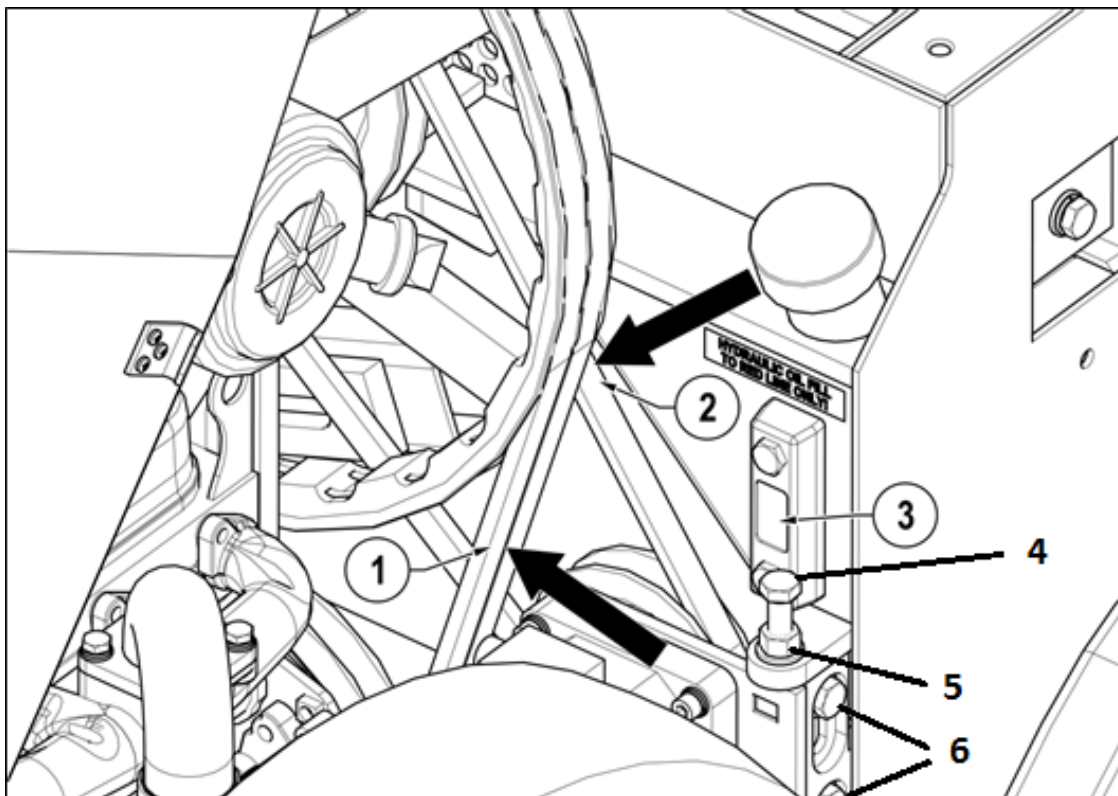

Figure 21
All drive belts are located under the engine cover as shown in Figure 16 and Figure 17 and tension checked at arrows shown in Figure 21. Check and set tension as follows:
1. Slacken clamp screw(s) or nut (6).
2. Hydraulic pump adjuster screw requires its lock nut to be slackened (5).
3. Turn adjuster nut or screw (4) to tension belt until 4.5Kg force at the belt longest centre span deflects by 6mm (see Figure 21). Can be approximated by firmly gripping belt between finger and thumb and twisting. The belt should not be able to be rotated more than 90°.